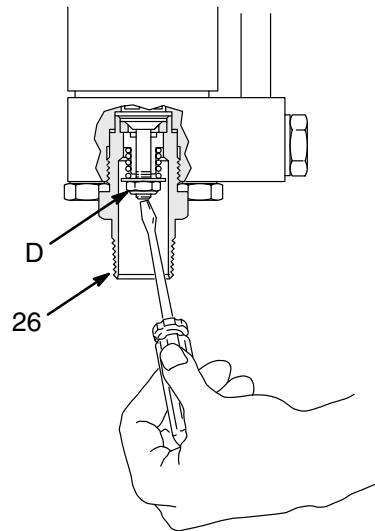

Fig. 12
- b. Lightly press down on the stem (D) inside the inlet valve (26) several times with a small screwdriver. See Fig. 12.
9. Restart the sprayer if it was shut off. Allow the paint to circulate through the bypass valve (66) for one or two minutes to prime the pump.